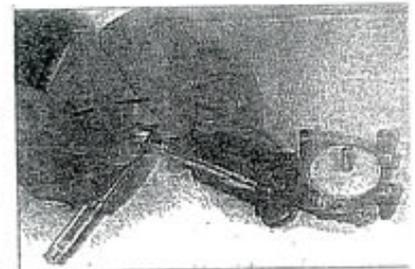

FIG. 3
4. Loosen, but **Do Not Remove** the two motor housing screws. **Caution: DO NOT completely separate the motor housing from the gear housing – you may not be able to re-assemble it.** (Fig. 3)